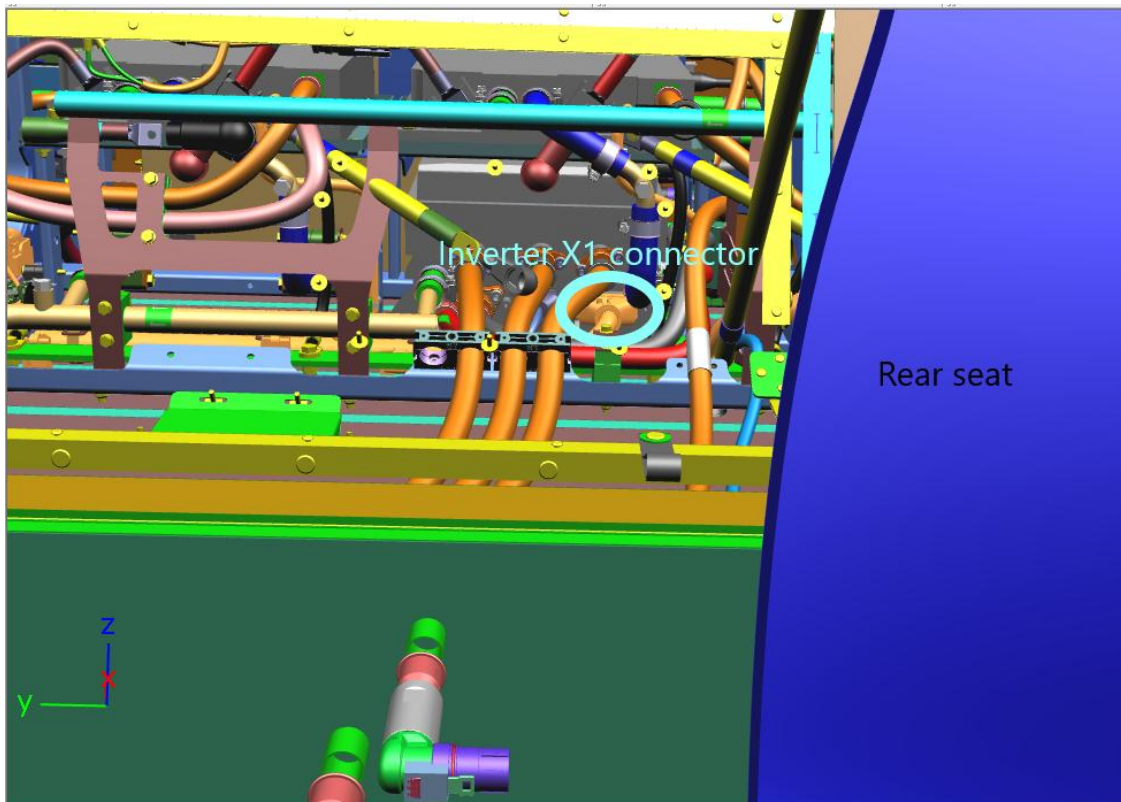

Figure 6: XE60 rear traction inverter X1 connector highlighted in light blue
19. Locate the X1 connector on the traction inverter (see figure 6) and remove it. Secure this connector nearby using Tywraps to reconnect later. Be aware the locking tab is located on the bottom of the connector and needs to be opened.